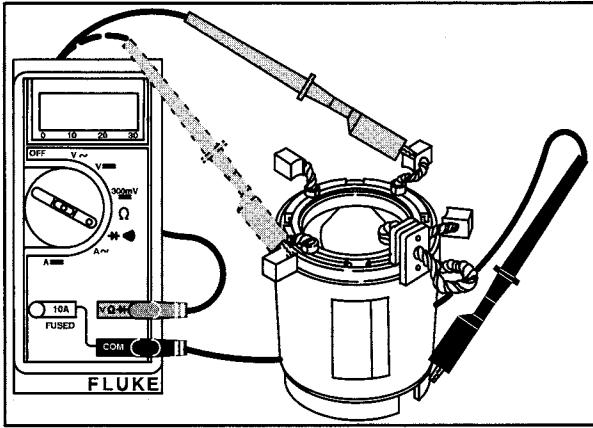

Fig. 40
3. Attach either test lead to starter housing, Fig. 40.